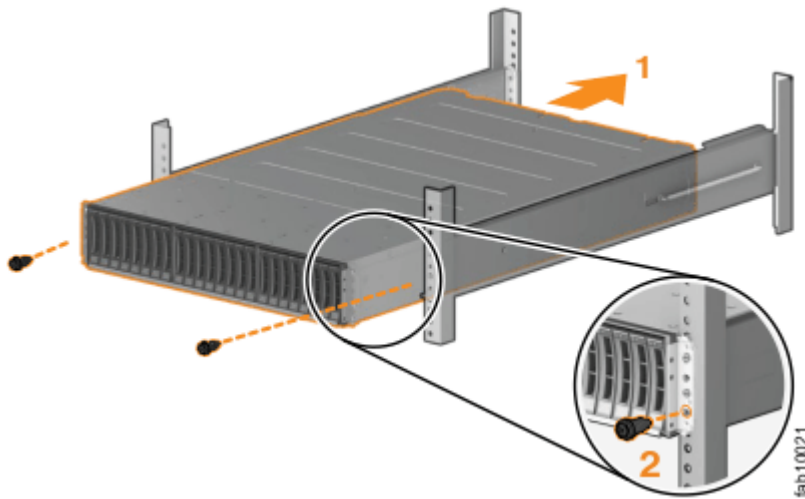

Figure 29. Inserting the enclosure
3. Slide the enclosure into the rack along the rails until the enclosure is fully inserted. (See Figure 29 on page 70.)